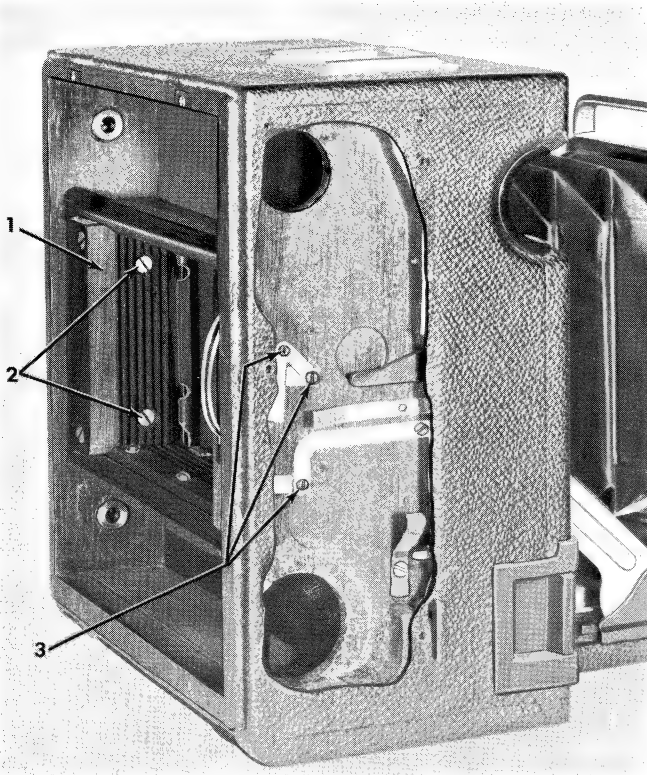

Figure 7. "23" Speed Contact Frame
(c) On "45" cameras: Remove four machine screws (36). On "23" and "34" cameras: Remove the four wood screws (2, figure 7) holding the frame and contact assembly (1).
Note: If it is found difficult to remove the frame and contact assembly do not attempt to force the frame out. This can be remedied by removing the shutter plate (4, figure 2), as described in paragraph IV.A.1. and partially unscrewing the contact screws (3, figure 7).
(c) On "23" and "34" cameras: Replace the frame and contact assembly (1, figure 7) and assemble four wood screws (2).